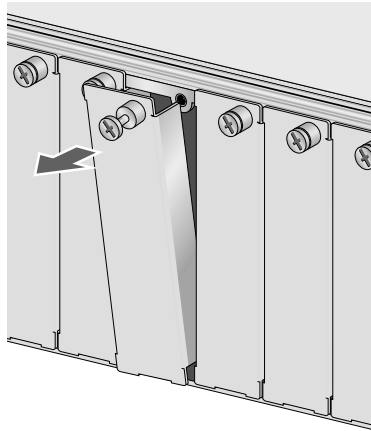

Figure 13 Removing a Blank Faceplate
1. Remove a blank faceplate from the chassis' front panel by loosening the thumbscrew. A PowerBlade module can be installed in any expansion slot. See Figure 13.